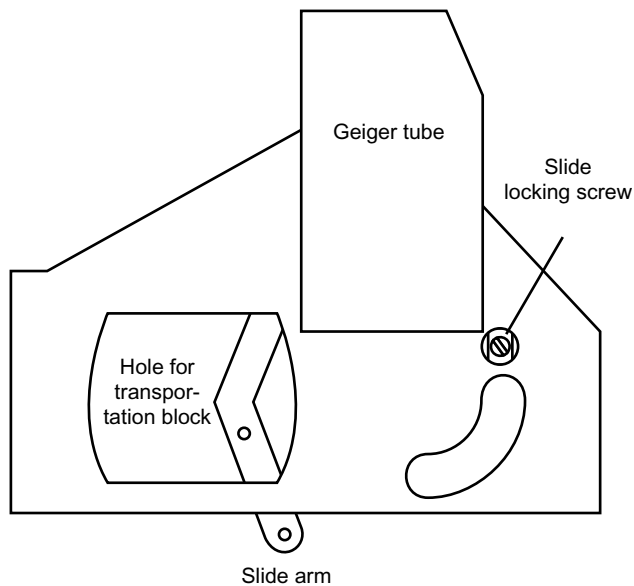

Figure 4.4. The slide in its locked position, without the transportation block in place.
2. Locate the so far empty position of the transportation block, close to the front of the unit, see figure 4.4.